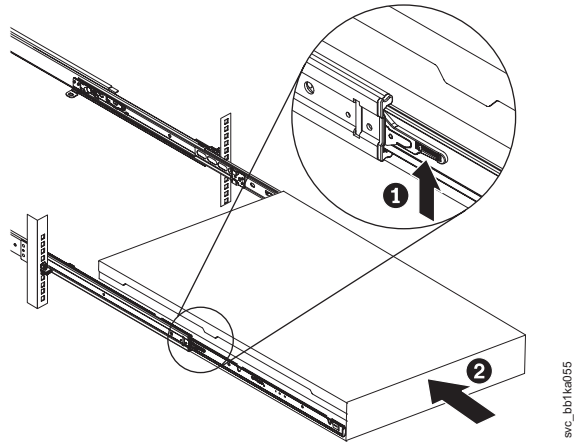

Figure 234. Raising the SAN Volume Controller 2145-CF8 or 2145-CG8 locking levers of the slide rails of the rack
9. Lift the locking levers (**1** in Figure 234 on page 250) on the slide rails and push the server **2** all the way into the rack until it clicks into place.